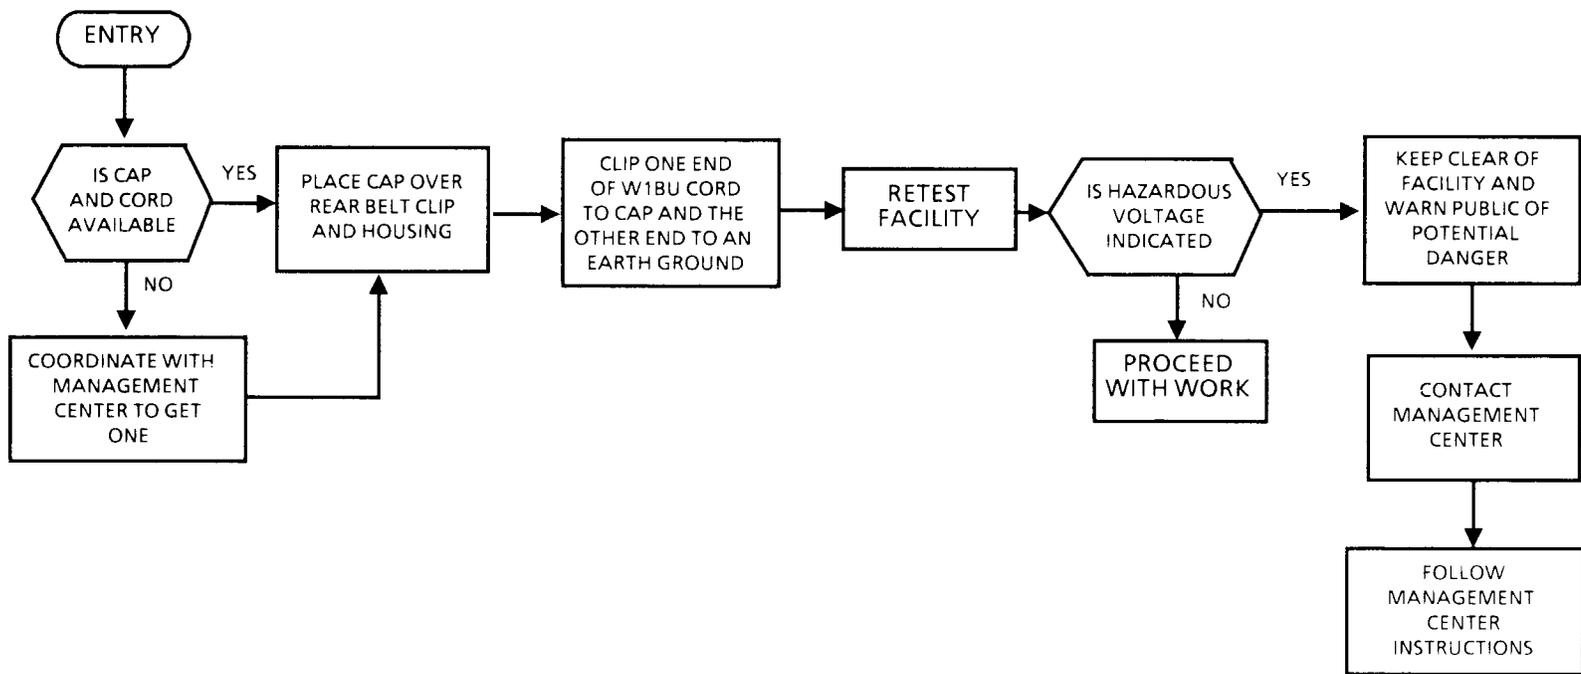

Fig. 14 - Ground Reference Test for 188A Test Set
- 7.01 When making voltage tests aloft from an insulated facility such as a pole or aerial lift vehicle, a hazardous voltage may be indicated due to induced voltage when none actually exists. In these cases, a ground reference must be provided for the 188A test set. Use flow chart (Fig. 14) as a guide to provide a ground reference.